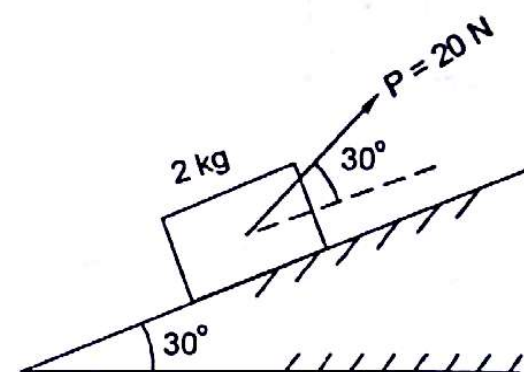

Fig. 14.25
14.9 A body of mass 2 kg is pulled-up by a force $P = 20 \text{ N}$ as shown in Fig. 14.25. What is acceleration of the body?